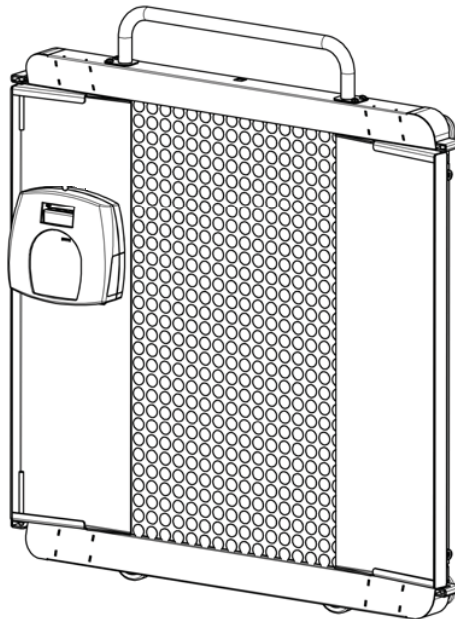

Figure 4. Folded Ramp
3. Lift the scale platform onto its side using the handle, and it is now able to be transported on two wheels see Figure 4.